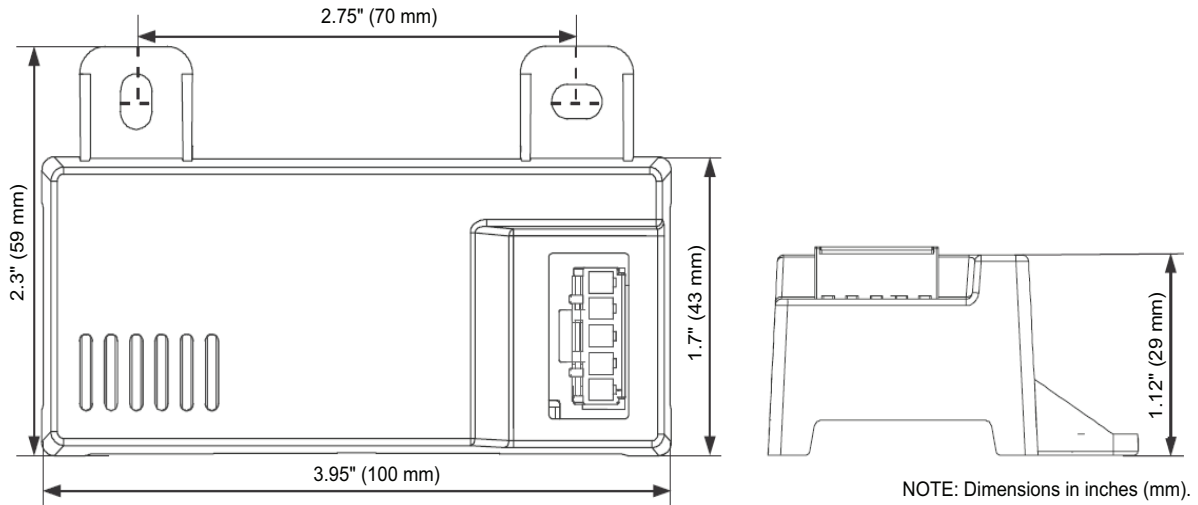
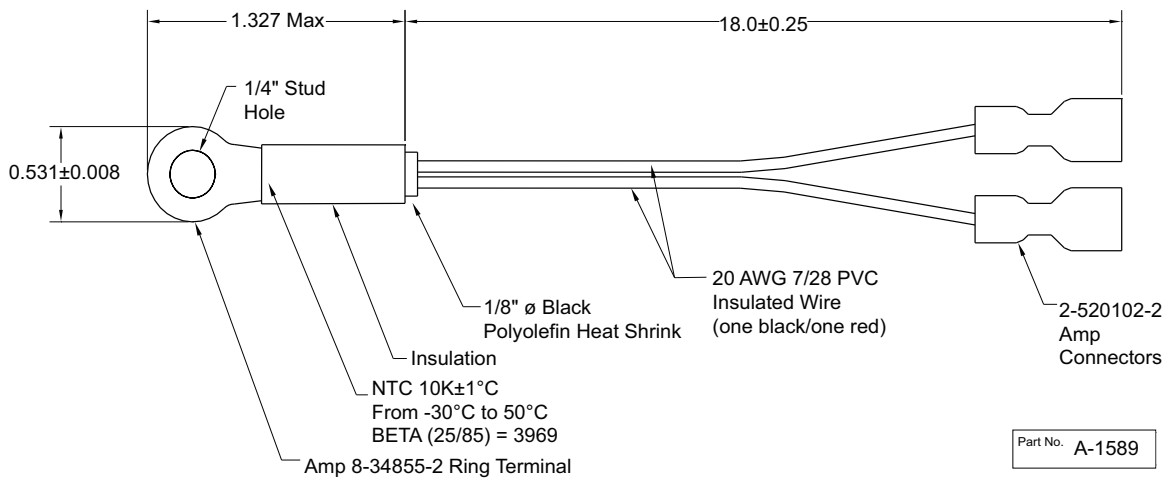
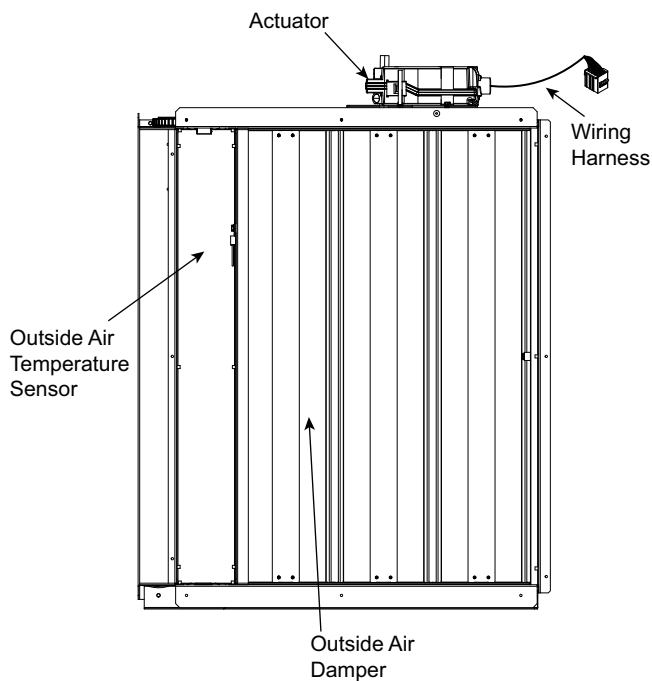

Fig. 90 – HH57LW001 Dimensional, Connection and Switching Information
Fig. 91 – HH79NZ039 Dry Bulb and Mixed Air Sensor Wiring
Fig. 92 – EconomizerONE Component Locations (CRECOMZR108A00 Shown)
When using the HH57LW001 enthalpy sensor (see Fig. 90) for outside air changeover, the existing HH79NZ039 dry bulb sensor (see Fig. 91) must be removed. The enthalpy sensor will be mounted in the same location as the dry bulb sensor (see Fig. 92). When the enthalpy sensor's OA (Outside Air) temperature, enthalpy, and dew point are below their respective setpoints, the outside air can be used for free cooling. When any of these are above the setpoint, free cooling will not be available. Enthalpy setpoints are configurable and create an enthalpy boundary according to the user's input. For additional details, see Fig. 93-94 and Table 37.
The optional enthalpy control sensor (P/N: HH57LW001) communicates with the POL224 economizer controller using the 5-wire harness, 48TC005213. The HH57LW001 sensor can be used as a single outside air enthalpy, a differential return enthalpy, or a differential return temperature sensor. Refer to the base unit control wiring diagrams found earlier in this book to wire the HH57LW001 enthalpy sensor for each option. Use Fig. 90 and Table 39 on page 77 to locate the wiring terminals for each enthalpy control sensor.
Economizers are shipped standard with an HH79NZ039 outside air dry bulb sensor (see Fig. 91). System default setting (high temp limit) is 63°F (17°C) and has a range of 48°F to 80°F (9°C to 27°C). Sensor is factory installed on economizer.
If installing the optional HH57LW001 enthalpy sensor, the HH79NZ039 dry bulb outside air sensor must first be removed. Wire sensor to harness 48TC005213 and the (5) wires from the harness to the EconomizerONE harness in the return air chamber. Harness 48TC005213 has a 5-pin plug that connects directly to the HH57LW001 enthalpy sensor. Refer to the base unit control wiring diagrams earlier in this book for wiring connections. Refer to Fig. 90 and Table 39.